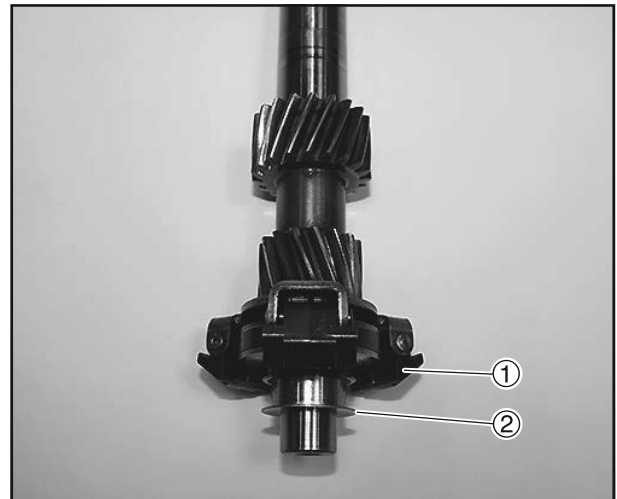

Figure 6-78
13. Inspect the weights (Figure 6-78, (1)) for the governor. Make sure they move freely.
14. Make sure the shim (Figure 6-78, (2)) is smooth on both sides.